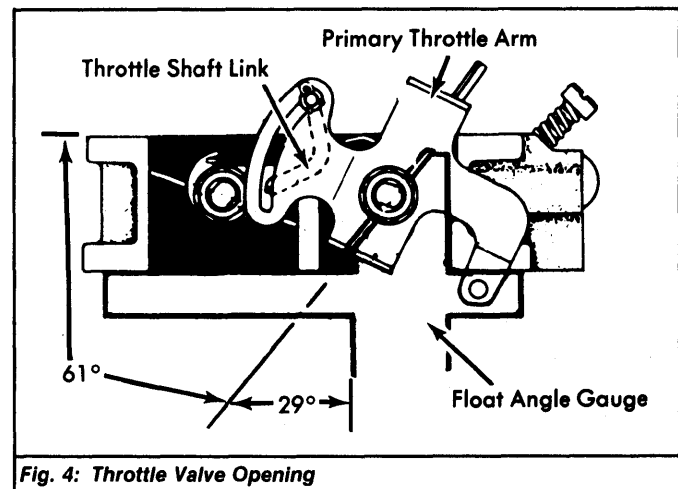

Fig. 4: Throttle Valve Opening
2) The secondary throttle valve should begin to open when primary throttle valve is open 60-61 degrees from bore surface, or when gauge shows 29-30 degrees. See Fig. 4.